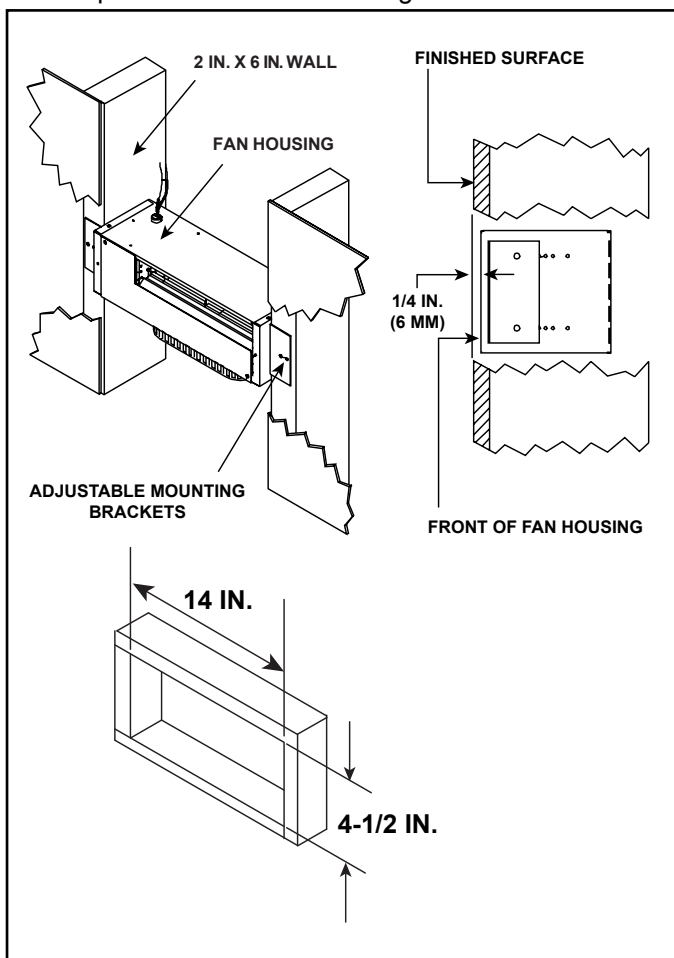

Figure 6.12 Wall Mounting (2 X 6)
- Attach round to oval adaptor to fan housing with two screws. See Figure 6.12.
Mount and secure the fan housing assembly to framing members so the front surface is 1/4 -in. (6 mm) below the finished wall. Use the adjustable mounting brackets and screws provided in the kit. See Figure 6.12.